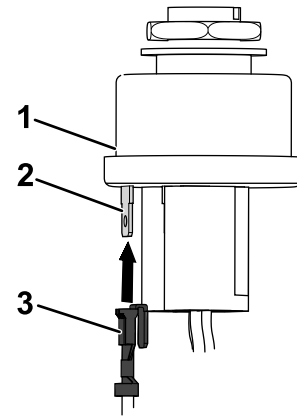

Figure 17
2. Connect the spade terminal of the harness adapter to Terminal C of the key switch (Figure 17).